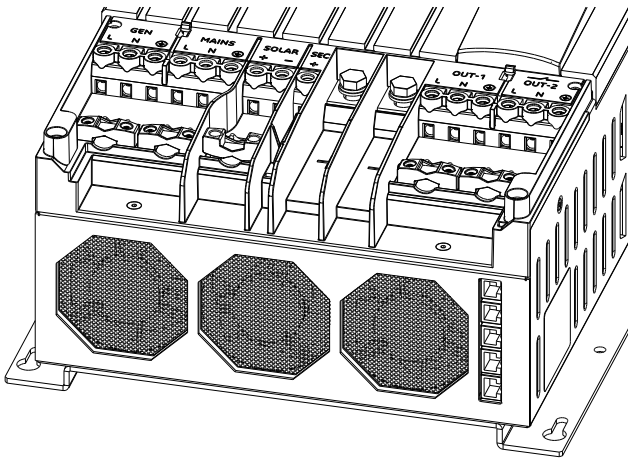

Figure 5-3: Front lid removed
- 2 Lift the front cover plate from the cabinet; see figure 5-3.